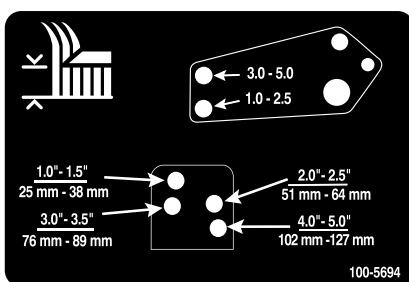

Figure 28
10. Align the damper-link holes with the selected height-of-cut bracket holes in the mower-deck frame, insert the clevis pins, and install the hairpin cotters (Figure 28).